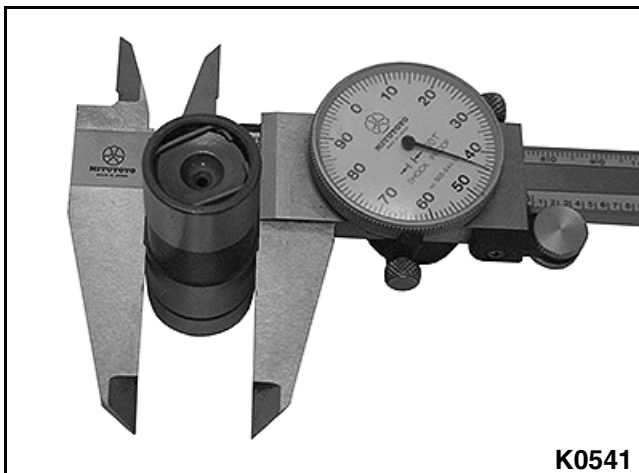

Figure 3-155
1. Use a snap gauge to measure the valve lifter bore diameter. **See Figure 3-155.**
2. Use a micrometer to measure the valve lifter outside diameter. **See Figure 3-155.**